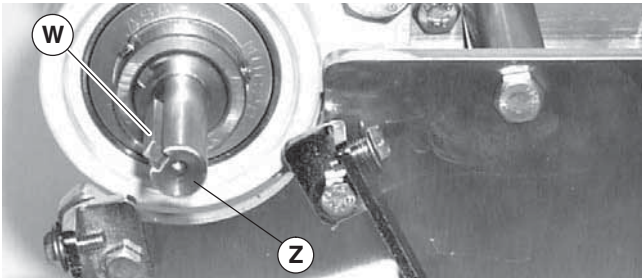

Figure 7
1. Install key (Figure 7, item W) into conveyor drive shaft (Z).
3. Wrap timing belt (Figure 7, item L) around driven pulley (M) and drive pulley (Q). Attach driven pulley (M) to conveyor shaft.